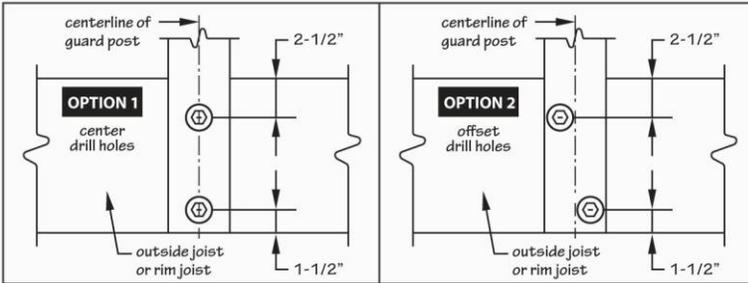

Fig 7
Fascia posts are usually shipped without the mounting holes pre-drilled to allow use in a variety of configurations. Mounting holes must be drilled whose size and location will vary depending on the mounting type selected. See Fig 7 & 8 for typical drilled hole detail.
3) Depending on the mounting hardware chosen, drill (2) appropriately sized holes through the base of each post. Use the following chart (Fig 7 & 8)